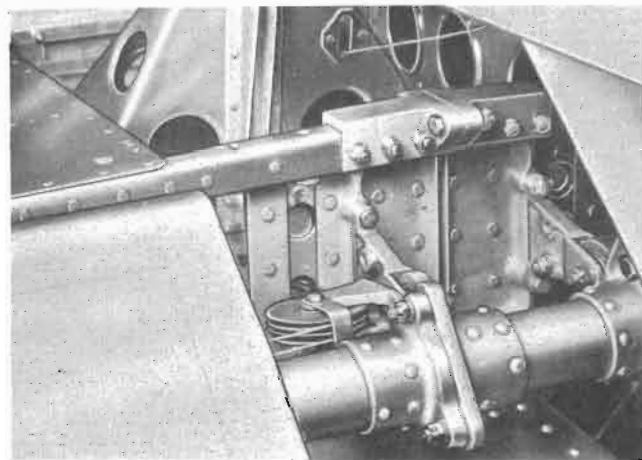

Figure 77 — Elevator-Stabilizer Installation
(3) INSTALLATION. — (See figure 77.) — The stabilizer assembly consists of two interchangeable sections which are bolted together through fittings provided on the upper and lower edges at the inboard ends of the rear spar. The stabilizer sections may be installed individually or prior to installing the vertical surfaces as a complete assembly. The elevator sections may or may not be attached to the stabilizer sections. Place the stabilizer in position on the fuselage tail, and secure it to the fuselage. The rear spar of each stabilizer section is held to the fuselage by two bolts; the front spar of each section is held to the fuselage by one bolt.
(1) DESCRIPTION.—(See figures 77 and 78.)—The elevator assembly consists of two interchangeable